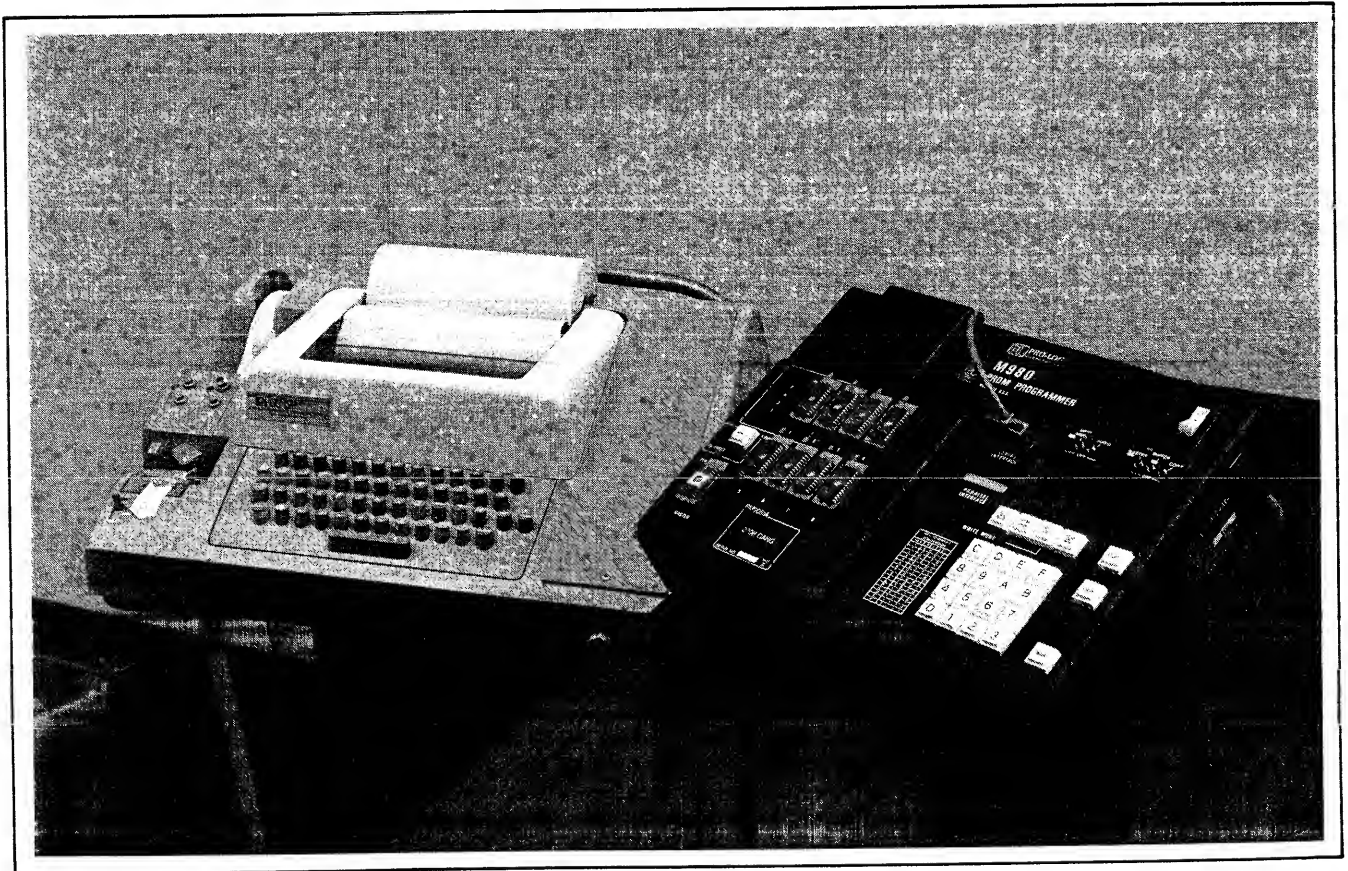

Figure 18-1 M980 with TTY
1. Connect TTY machine to 9 Pin "D"-type connector as shown on Figure 18-1.